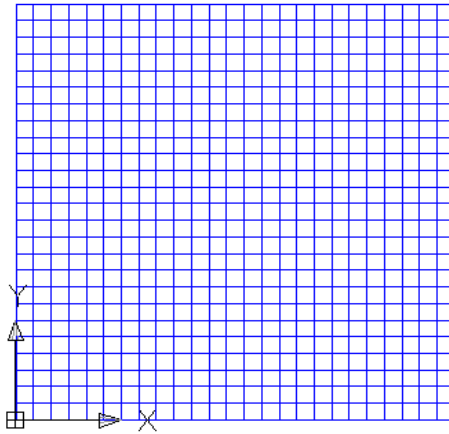

Figure Step 8
Step 8 Change the view to Top. (Figure Step 8)